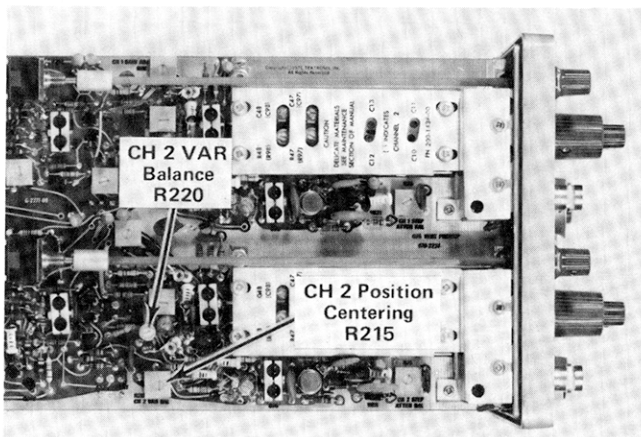

Fig. 5-13. Location of CH 2 Variable Balance and Position Centering adjustments.
- c. ADJUST—CH 2 Variable Balance adjustment, R220, (see Fig. 5-13) for minimum trace shift when rotating the CH 2 VAR control through its range.
- e. ADJUST—CH 2 Position Centering adjustment, R215, (see Fig. 5-13) so that the top of the CRT display can be positioned down to 1/2-division above the center horizontal graticule line, and the bottom of the display can be positioned up to 1/2-division below the center horizontal graticule line.